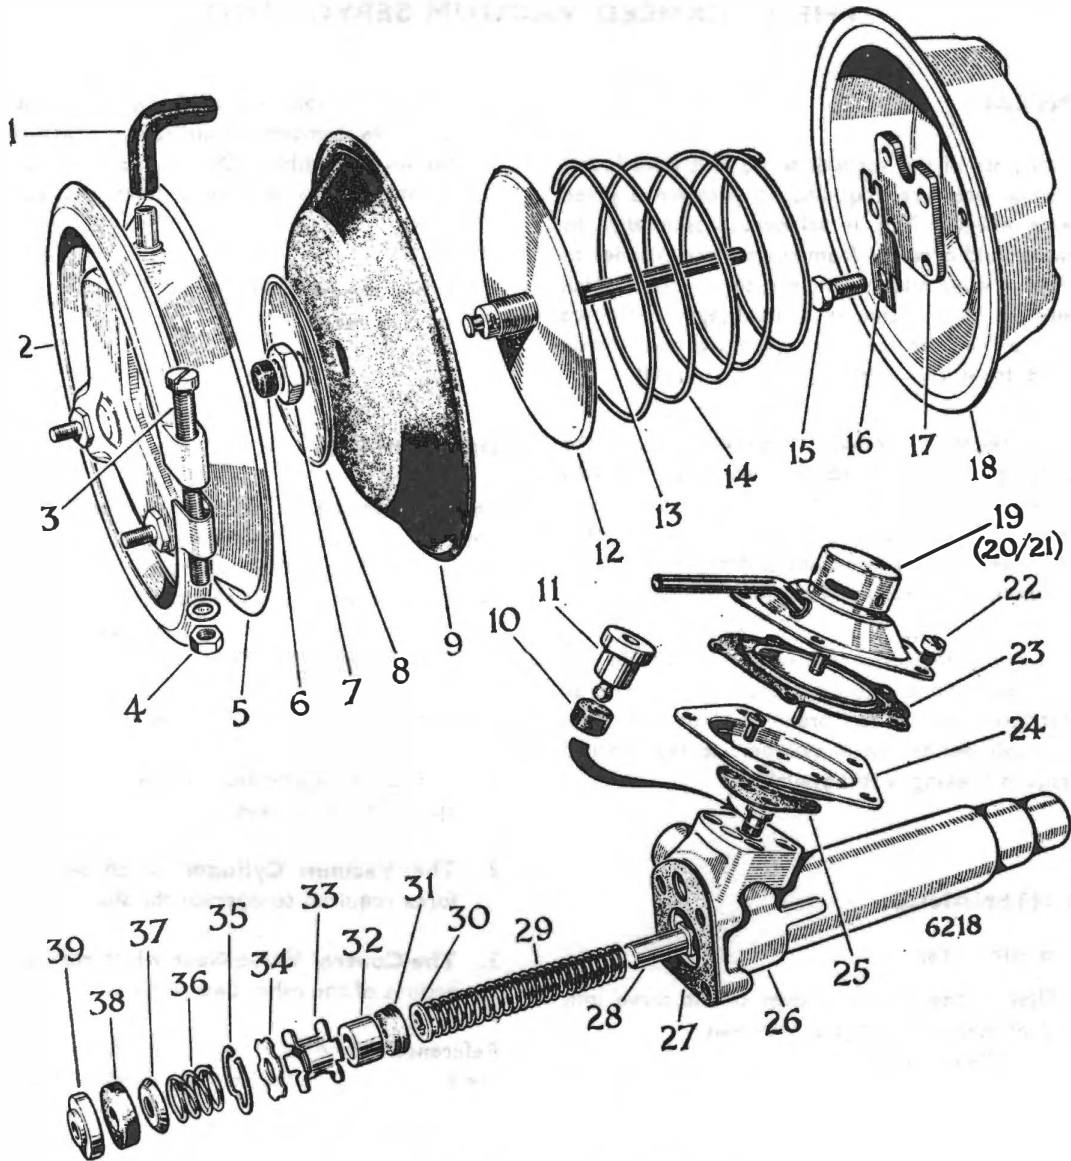
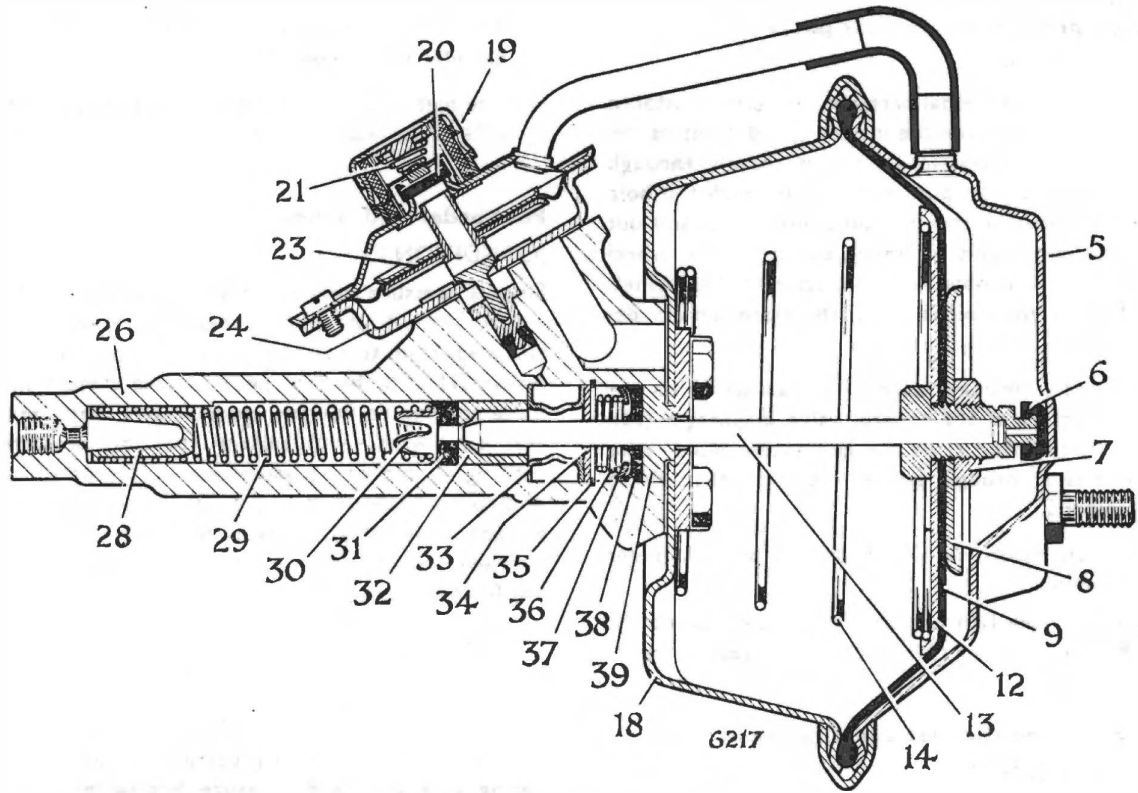
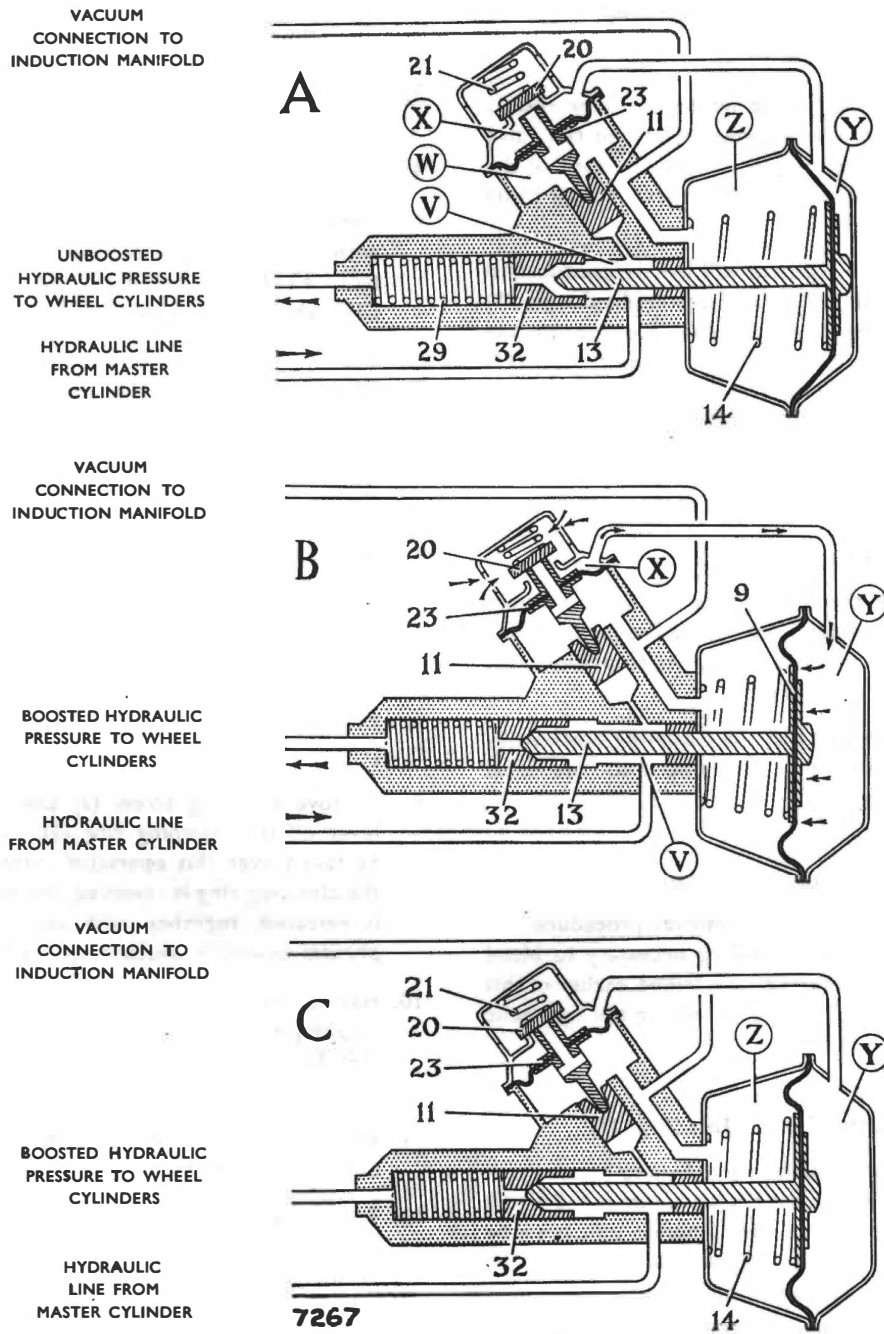

Fig. 22 Servo unit—exploded view
Fig. 23. Sectional view of the servo unit
Fig. 24. Diagram of the operating principles
2. Remove the air valve cover assembly (item 19, Fig. 22) by withdrawing the five securing screws.
3. Lift the air valve (item 20, Fig. 23) off its seat and blow compressed air at low pressure into the filter chamber. Do not lubricate the filter or attempt to remove it from the air valve cover.
Reference should be made to Fig. 22 for details of the parts which comprise these three sections.
The operation is shown diagrammatically in Fig. 24. The reference numbers used correspond with those used in the exploded view (Fig. 22) and sectional view (Fig. 23).
Annotation for Figs. 22 and 23
**To dismantle the Servo Unit (Fig. 22)**
1. Position the slave cylinder (26) in the vice with the hydraulic outlet facing downwards, taking care not to overtighten the clamp.
2. Fit the spring retainer (28) into one end of the spring (29) and the spring guide (30) into the other end. Insert the spring assembly into the slave cylinder bore, retainer end first.
3. Fit the main cup (31) by positioning the fitting sleeve, previously made up, at the mouth of the slave cylinder bore and passing the main cup through it (lip foremost). Take particular care not to turn back or buckle the lip.
4. Fit the hydraulic piston (32), flat face leading, into the bore and holding the piston against the spring pressure, fit the distance piece (33), washer (34) and circlip (35). Use the push rod (13), or a  $\frac{5}{16}$  in. (7.9 mm.) diameter brass rod to depress the piston when fitting the circlip. Take care not to score the slave cylinder bore with the circlip and after fitting check that it is properly seated in its groove.
5. Insert spring (36) into the slave cylinder bore followed by the cup spreader (37), dished side facing inwards. Next, insert the secondary cup (38), hollow side facing inwards, ensuring that it locates properly on the cup spreader (see Fig. 23).
6. Fit the guide piece (39) in the end of the bore with the flat side facing inwards.
7. Place the gasket (27) in position.
8. Offer up the vacuum shell (18) to the slave cylinder (26), locating its base on the projecting portion of the guide piece (39).